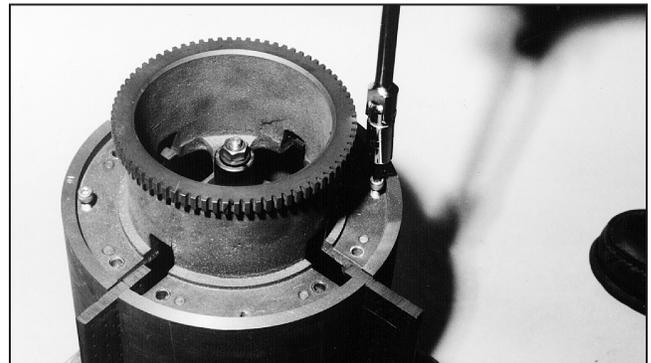

Figure 11 – Remove Rotor Cover
Remove the eight (8) socket head screws (Figure 11). Use four (4) of the screws as jack screws to evenly lift the rotor cover from the rotor. *Even though the dowel pins allow for proper orientation of the rotor cover, a check mark across the rotor and rotor cover will speed the orientation during reassemble.*